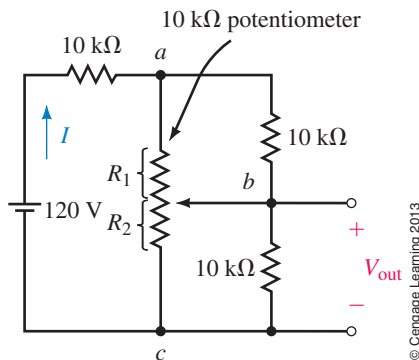

FIGURE 7-71
31. Refer to the circuit of Figure 7-71:
32. In the circuit of Figure 7-71, what value of R_2 results in an output voltage of 40 V ?